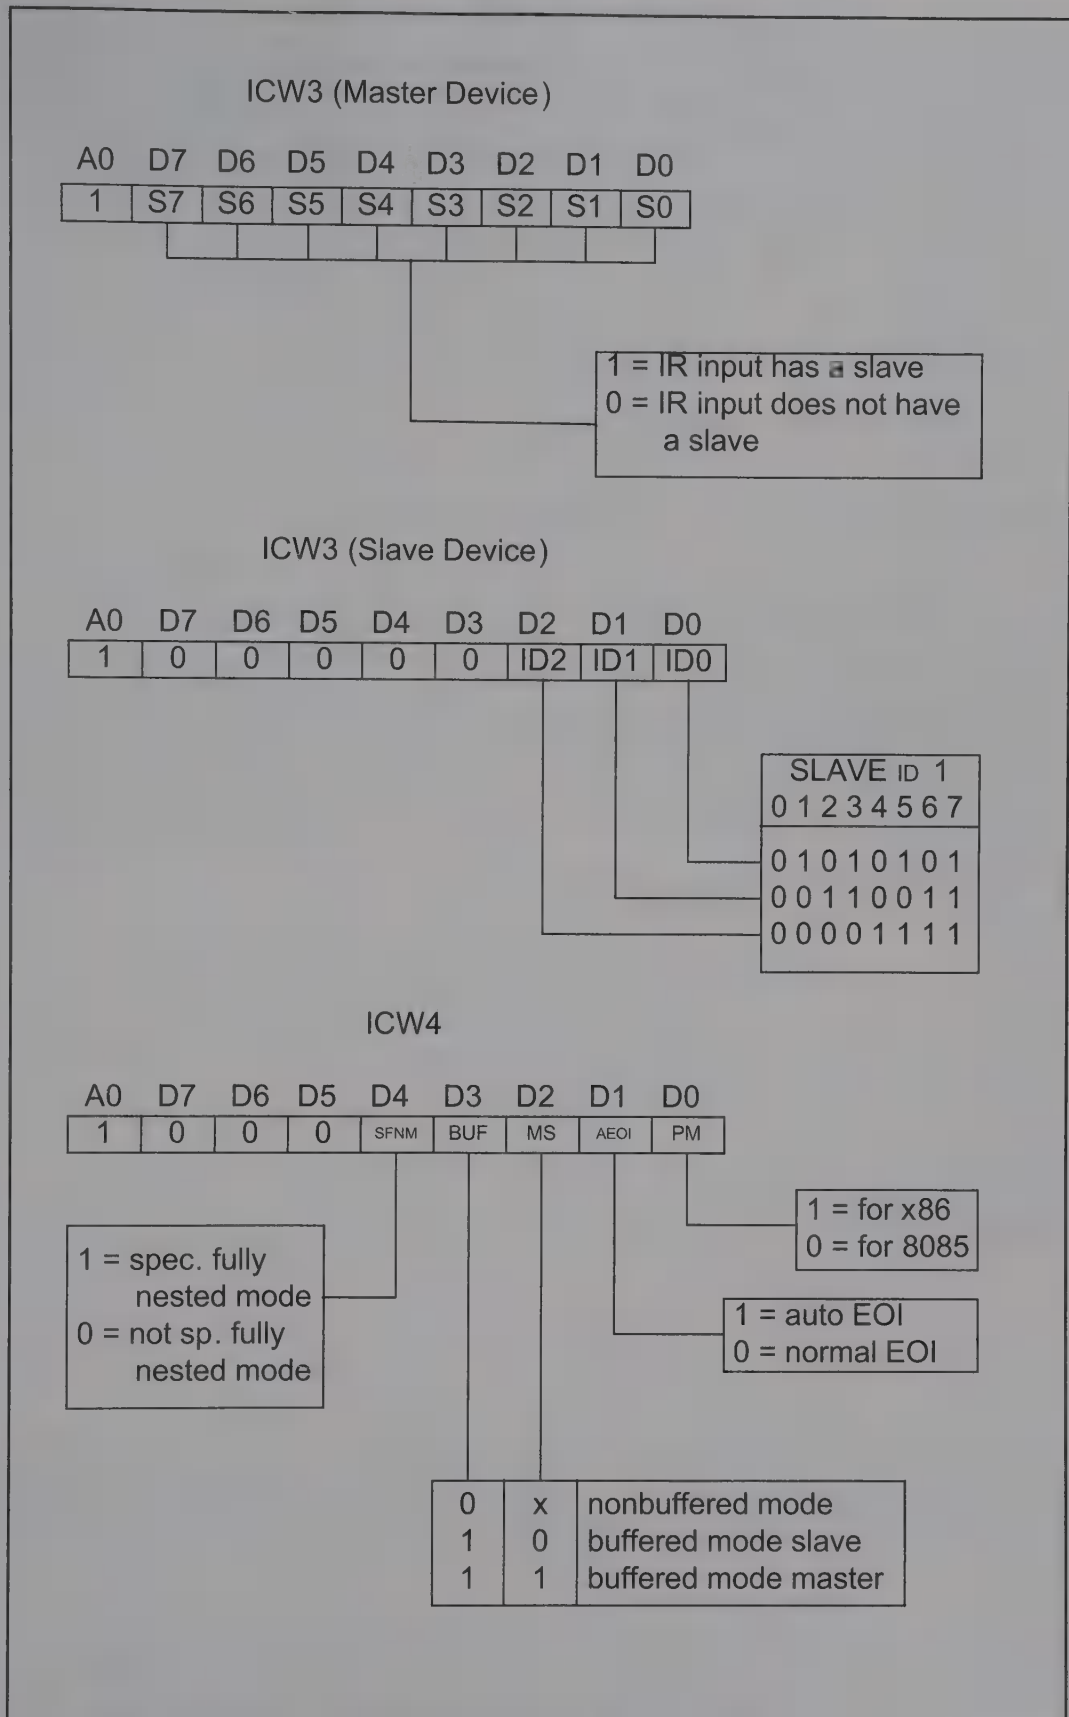

Figure 14-6. ICW Formats (ICW3 and ICW4) for the 8259
ICW3 is used only when two or more 8259s are cascaded. In this mode, a single 8259 can be connected to eight slave 8259s, thereby providing up to 64 hardware interrupts. In cascade mode, there are separate ICW3 words for the master and the slave. For the master, it indicates which IR has a slave connected to it, and a separate ICW3 informs the slave which IR of the master it is connected to. See Figure 14-6.
D0 indicates the processor mode (PM), the choice of microprocessor. D0 equals 1 for the 8088/86 and 0 for the 8080/8085. When D1, which is AEOI (automatic end of interrupt), is high it eliminates the need for an EOI instruction to be present before the IRET (interrupt return) instruction in the interrupt service routine. When D1 is zero, the EOI must be issued using the OCW (operation command word) to the 8259. In other words, if D1 = 0, the last three instructions of the interrupt service routine for IR0–IR7 must be issuing the EOI followed by IRET. The significance of this is discussed shortly when the OCW is discussed. D2 and D3 are for systems where data buses are buffered with the use of bidirectional transceivers. The 8259 can work in either buffered or non-buffered mode. D4 is for SFNM (special fully nested mode). This mode must be used when the 8259 is in master mode, and then D4 = 1; otherwise, it is 0. D5–D7 must be zero, as required by the 8259. See Figure 14-6 and Example 14-8.